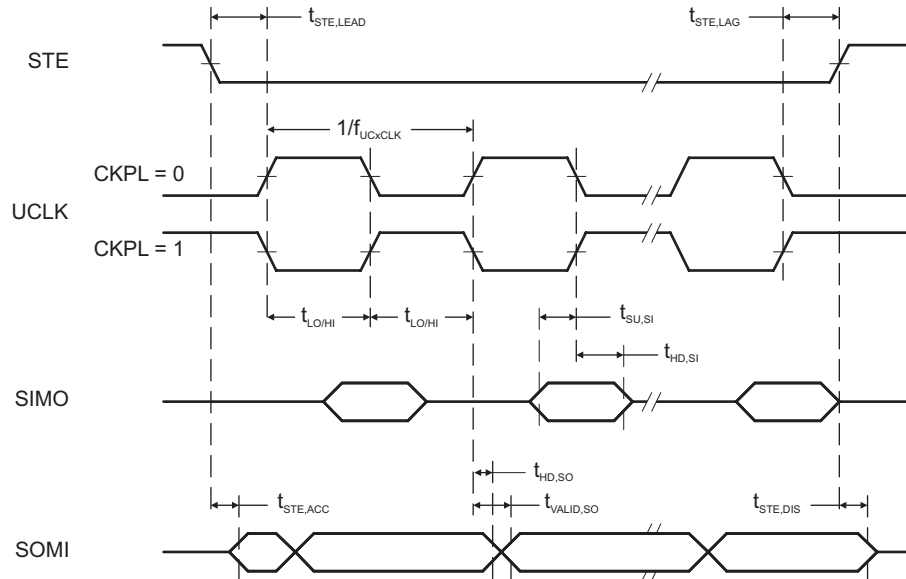
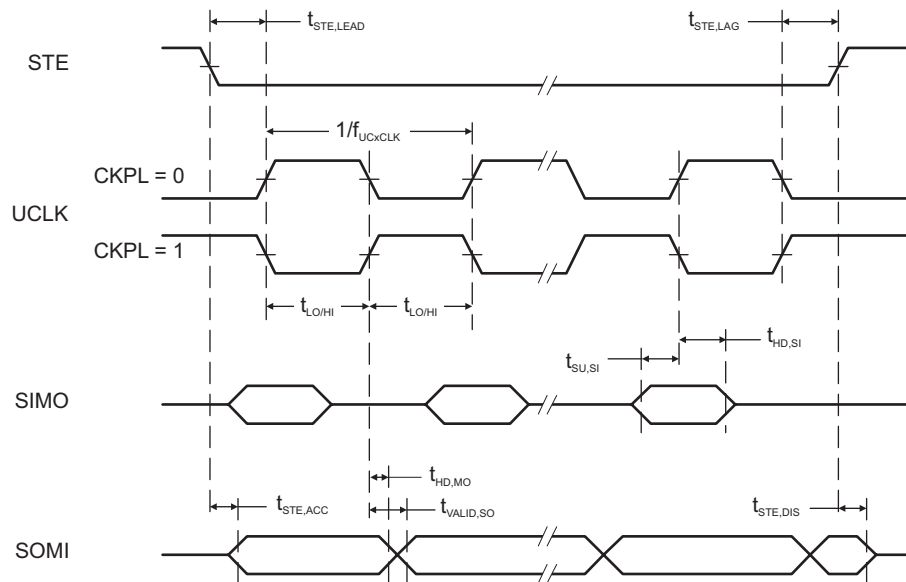

Figure 5-15. SPI Slave Mode, CKPH = 0
Figure 5-16. SPI Slave Mode, CKPH = 1
(see Figure 5-15 and Figure 5-16)
- (2) Specifies the time to drive the next valid data to the SOMI output after the output changing UCLK clock edge. See the timing diagrams in Figure 5-15 and Figure 5-16.
- (3) Specifies how long data on the SOMI output is valid after the output changing UCLK clock edge. See the timing diagrams in Figure 5-15 and Figure 5-16.